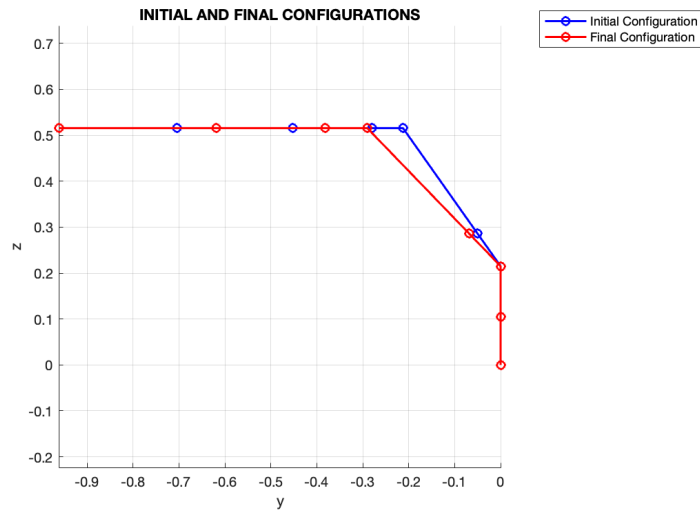

Figure 2: Initial and final configurations of the manipulator.
- Initial and final configurations of the manipulator are shown in Figure 2.